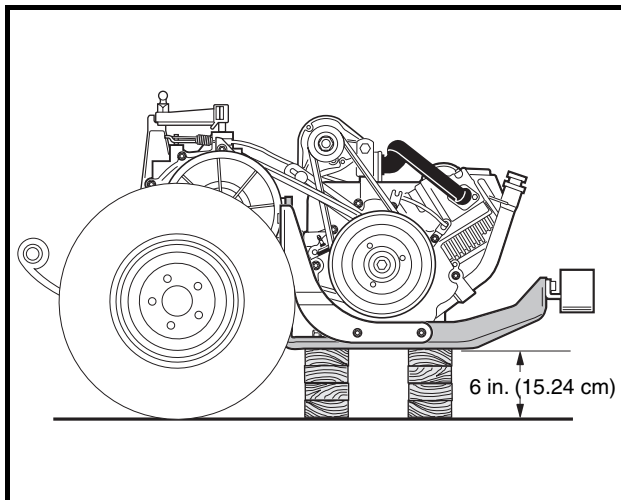

Figure 19-28 Position Powertrain on Wood Blocks
15. Place blocks under the engine pan so they will completely support the engine and keep it **level to the floor (Figure 19-28, Page 19-12)**. See following **NOTE**.